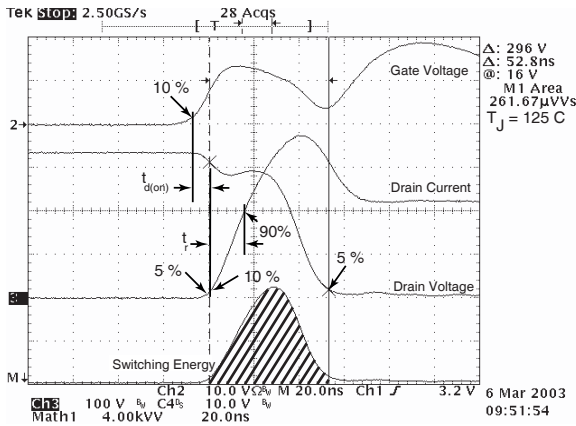

Figure 18, Turn-on Switching Waveforms and Definitions
③ See MIL-STD-750 Method 3471
④ Starting  $T_j = +25^\circ C$ ,  $L = 3.97mH$ ,  $R_G = 25\Omega$ , Peak  $I_L = 22A$
⑤  $dv/dt$  numbers reflect the limitations of the test circuit rather than the device itself.  $I_S \leq -I_D 22A$   $di/dt \leq 700A/\mu s$   $V_R \leq V_{DSS}$   $T_J \leq 150^\circ C$
⑥  $E_{on}$  includes diode reverse recovery. See figures 18, 20.